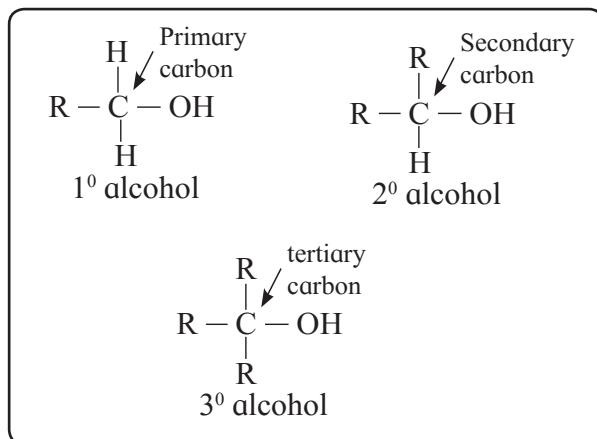

Fig. 11.1 : Primary, secondary and tertiary alcohols
a. Alcohols containing sp^3 C - OH bond : In these alcohols -OH group is attached to a sp^3 hybridised carbon atom of alkyl group. These alcohols are further classified as primary (1°), secondary (2°) and tertiary (3°) alcohols in which -OH group is attached to primary, secondary and tertiary carbon atom respectively. (see Fig. 11.1), also refer to Std. XI Chemistry Textbook Chapter 14, sec. 14.3.2)